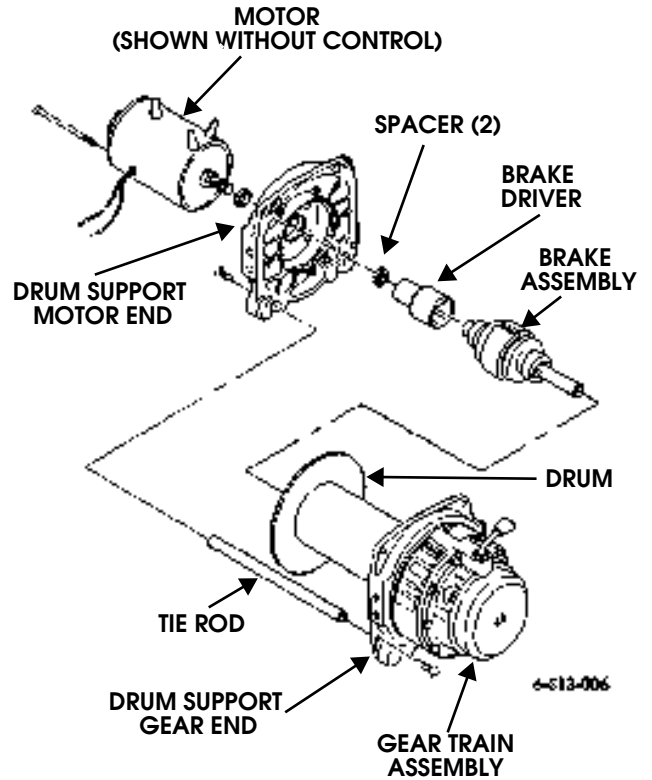

Figure 13-7: Drum Support and Gear Train Assembly
5. Mark motor end drum support, gear train assembly, and gear end drum support for assembly (Figure 13-7).
9. Remove drum assembly from gear train assembly (Figure 13-7).